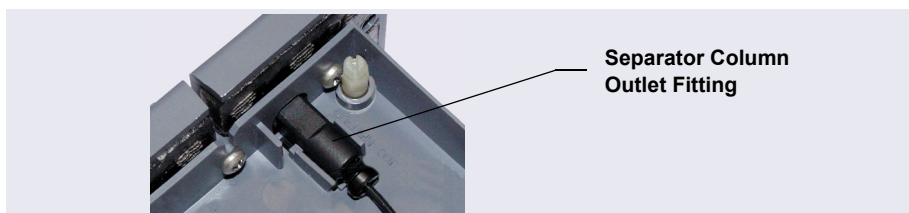

Figure 10-51. Separator Column Outlet Fitting in Capillary Column Tray
3. Orient the separator column's outlet fitting with a flat side facing up and push the fitting into the opening at the front of the column tray until it stops. Press the fitting down into the clip (see Figure 10-51).